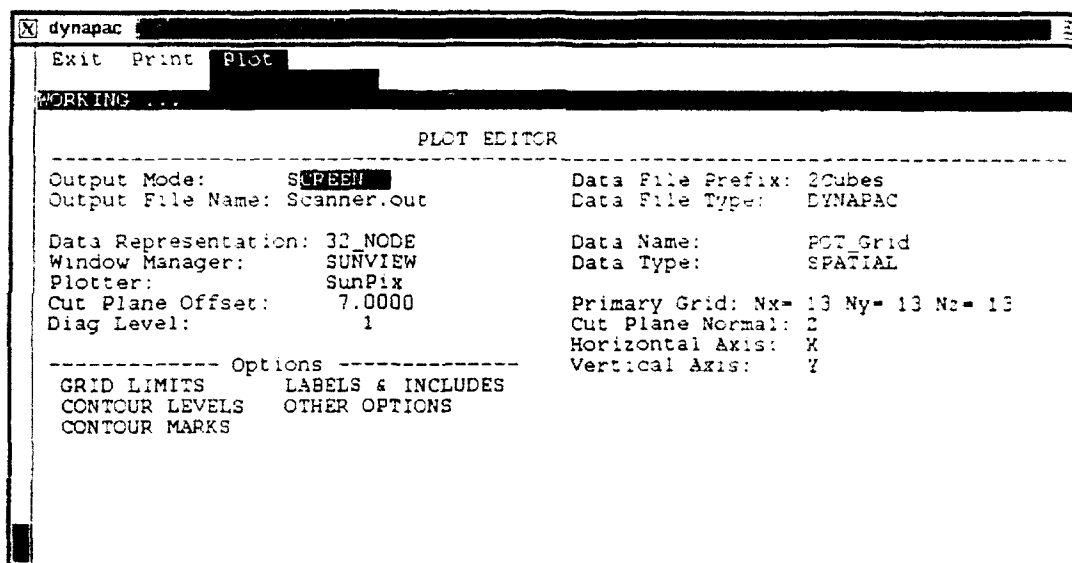

Figure 5.7 Scanner screen for the Plot/Edit Plot option.
4. Select "Plot" from the top menu and choose "Edit Plot." Figure 5.7 shows the "Edit Plot" screen.